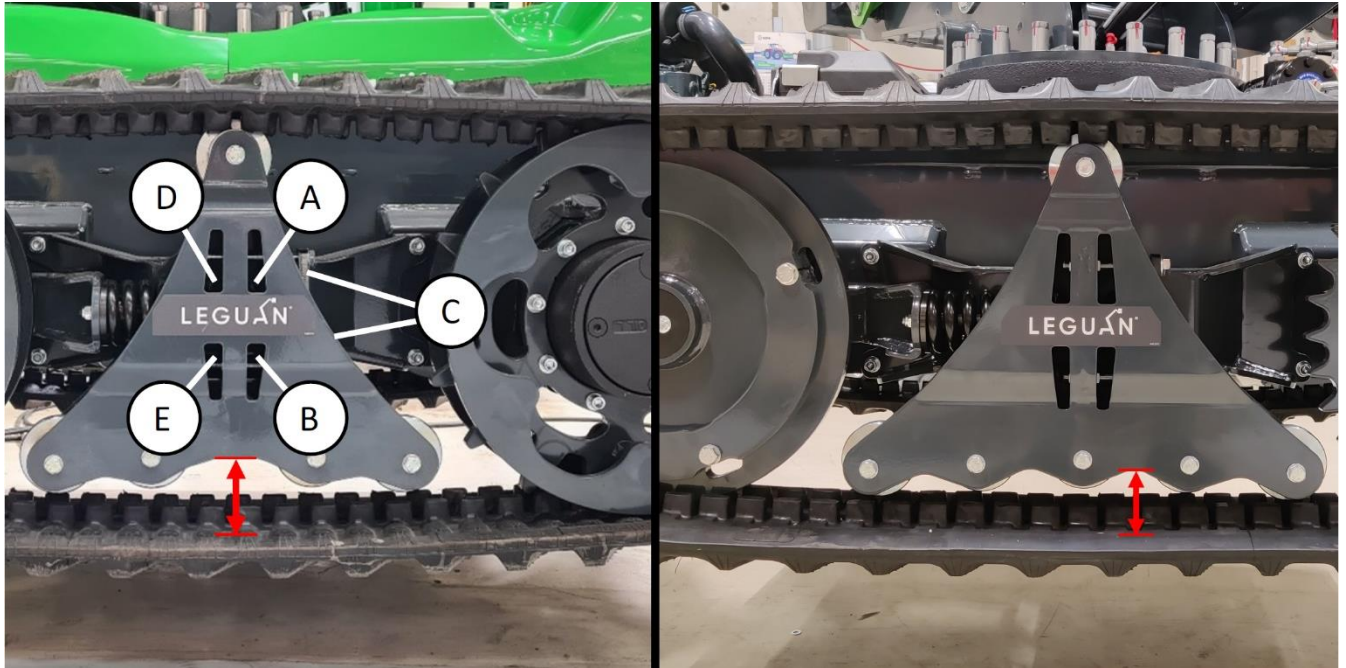

Figure 12. Track tightness adjustment
Raise the access platform off the ground using the outriggers. The tracks should be off the ground minimum 5 cm. Drive backwards a little to have the slack below. The tightness is correct if the gap between the track and the track frame is the same from end to end (marked with red lines in figure 12). The correct gap is 85-90 mm.
The track is tightened with a preloaded spring. To tighten the track, loosen the nuts marked (A) and (B) in figure 12. Then tighten nuts D and E and hold bolts C (or vice versa). This pulls the bolts (figure 12, (C)) and the adjustment plate towards the middle of the track and moves the front track wheel forwards. Tighten the nuts just enough so that the track straightens in relation to the track frame and that the gap is 85-90 mm. Tighten both nuts evenly. After the adjustment tighten the nuts A and B.